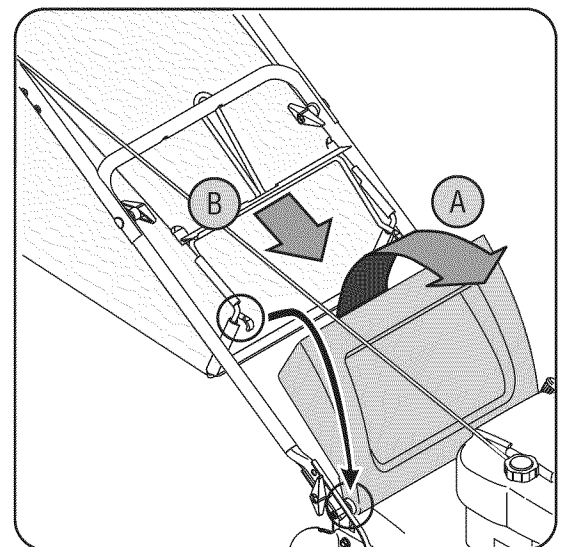

Figure 4
- b. Place grass catcher on the pivot rod. Let go of discharge door so that it rests on the grass catcher. See Figure 4.